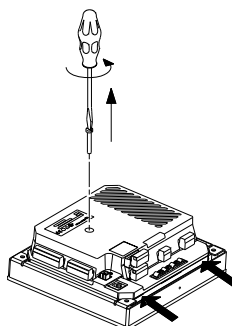

Fig. 11 Removing the screw that holds the back cover
1. Remove the screw in the back cover of the CU 3X2. See fig. 11.